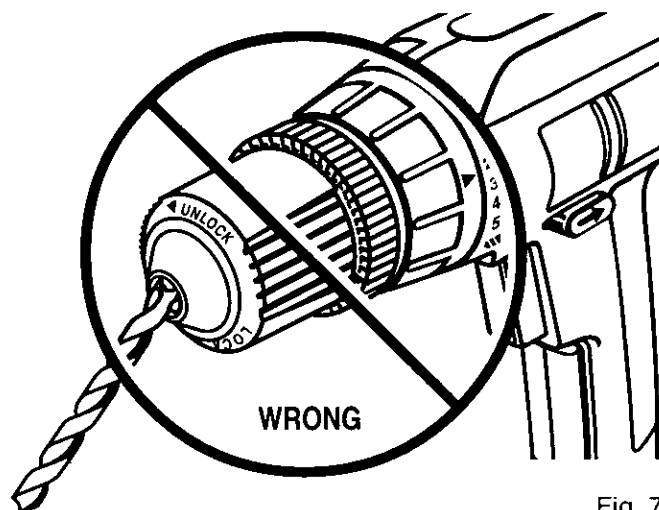

Fig. 7
**⚠ WARNING:** Do not insert drill bit into chuck jaws and tighten as shown in figure 7. This could cause drill bit to be thrown from drill resulting in possible serious personal injury or damage to the chuck.